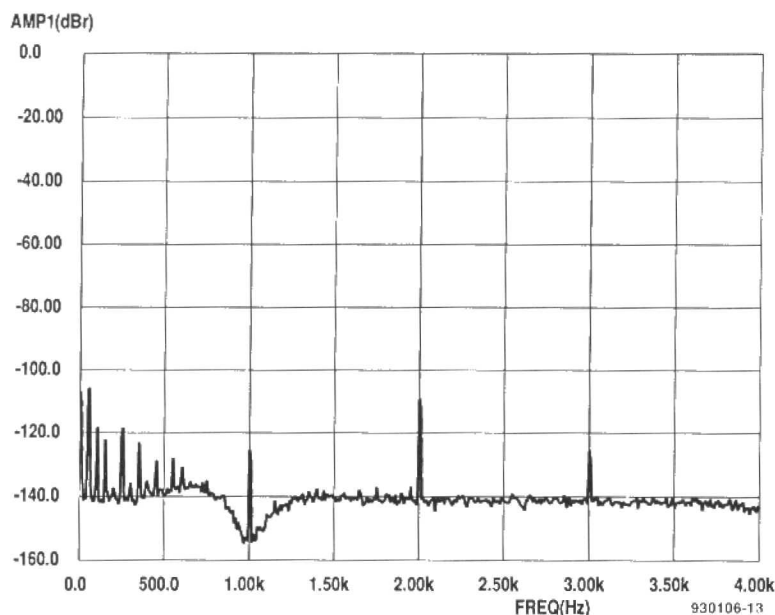

Fig. 4. The THD characteristic leaves little to be desired.
- Noise suppression and total harmonic distortion (THD) are shown in **Fig. 4**.